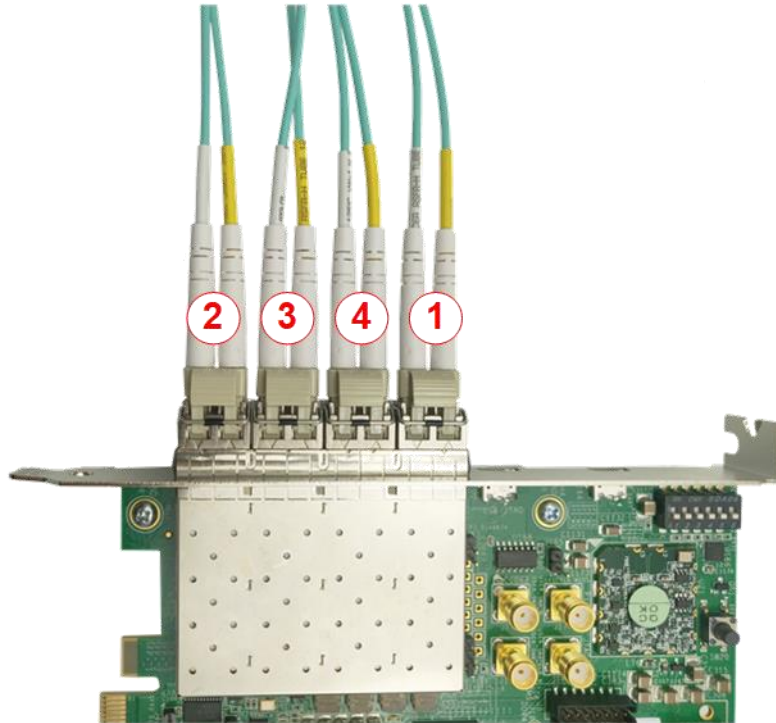

Figure 2-5 100Gb connection on KCU116 board by QSFP28 to 4xSFP28 cable
- a) For KCU116, insert four SFP28 transceivers and MTP to 8xLC Fiber cable on FPGA board. Please check channel number of four cables to match with Figure 2-5.